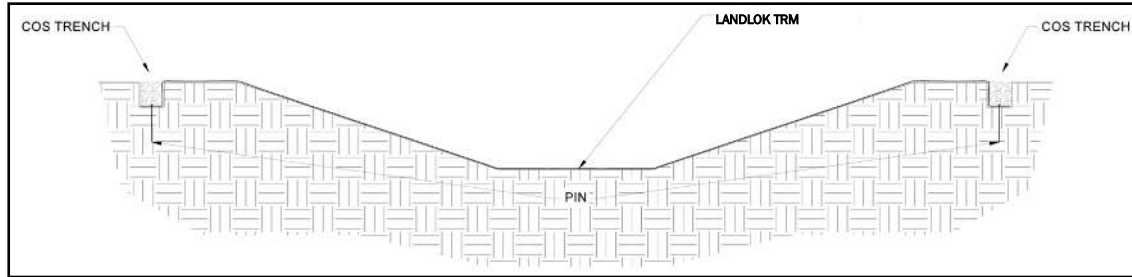

Figure 17: Crest of Slope (COS) Trenches Complete
1. Starting with the downstream end of the site select one of the COS trenches to begin the LANDLOK Laydown process. To ensure proper anchoring of the overlapped areas the proceeding roll width must be laid out before the current roll width can be anchored to the final roll width at the TC trench. For straight sections of a channel, LANDLOK panel lengths should be long enough to construct both COS trenches while also covering the surface of the channel being armored. (Figure 17) Panel edges should rest perpendicular to the channel center line. For best results, panels of LANDLOK should be continuous and free from seams or roll end overlaps that are parallel to the centerline of the channel. Panel edge overlapping should follow a pattern of placing each proceeding panel's edge overtop the previous panel edge, shingling the panels in the direction of the water flow.
- Secure LANDLOK with pins in the opposite COS trench. Suggested placement of pins for the opposite COS trench is along the bottom of the trench on 12 in (300 mm) centers (Figure 17).
- Backfill and compact the opposite COS trench in the location of the first LANDLOK panel only (Figure 17).